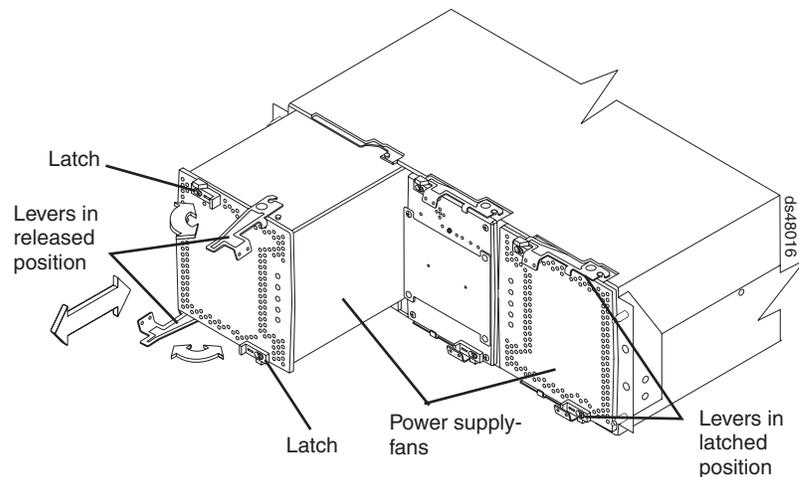

Figure 80. Removing a power supply-fan from the DS4800
9. Unlatch the top and bottom levers on the failed power supply-fan. Rotate both levers out simultaneously and remove the failed power supply-fan. (Figure 80 on page 125 shows a power supply-fan sliding from the storage subsystem chassis.)